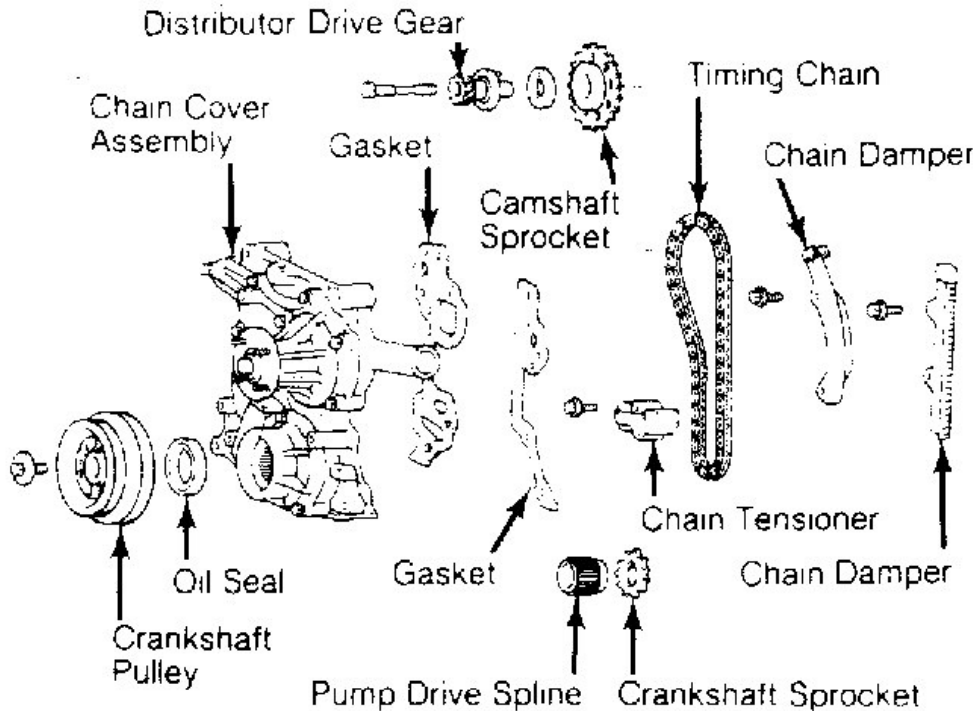

Fig. 4: Exploded View of Timing Chain Components
2. Remove power steering belts (if equipped). Remove A/C belt, compressor and bracket (if equipped). Remove fluid coupling with fan and coolant pump pulley. Set No. 1 cylinder to TDC of compression stroke. Remove crankshaft pulley. See **Fig. 4**.